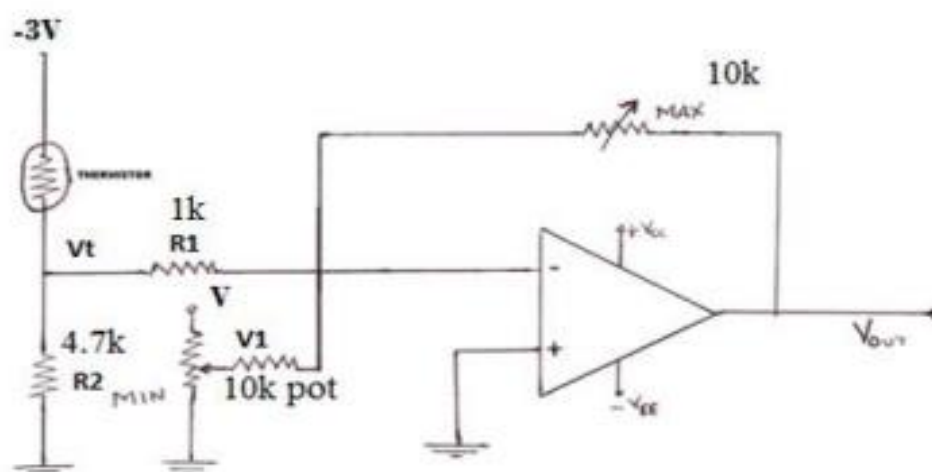

Fig.1. Connection diagram
1. Rig up the circuit as shown in the Fig.1, set the gain of the calibration amplifier to unity, and switch on the power supplies.